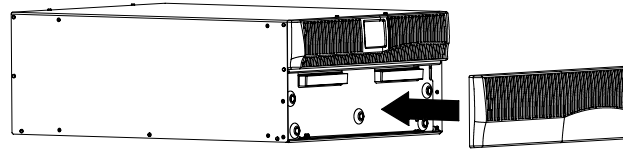

Figure 3. Installing the UPS Front Covers
4. Install the UPS front covers (provided in the accessory kit). See Figure 3.